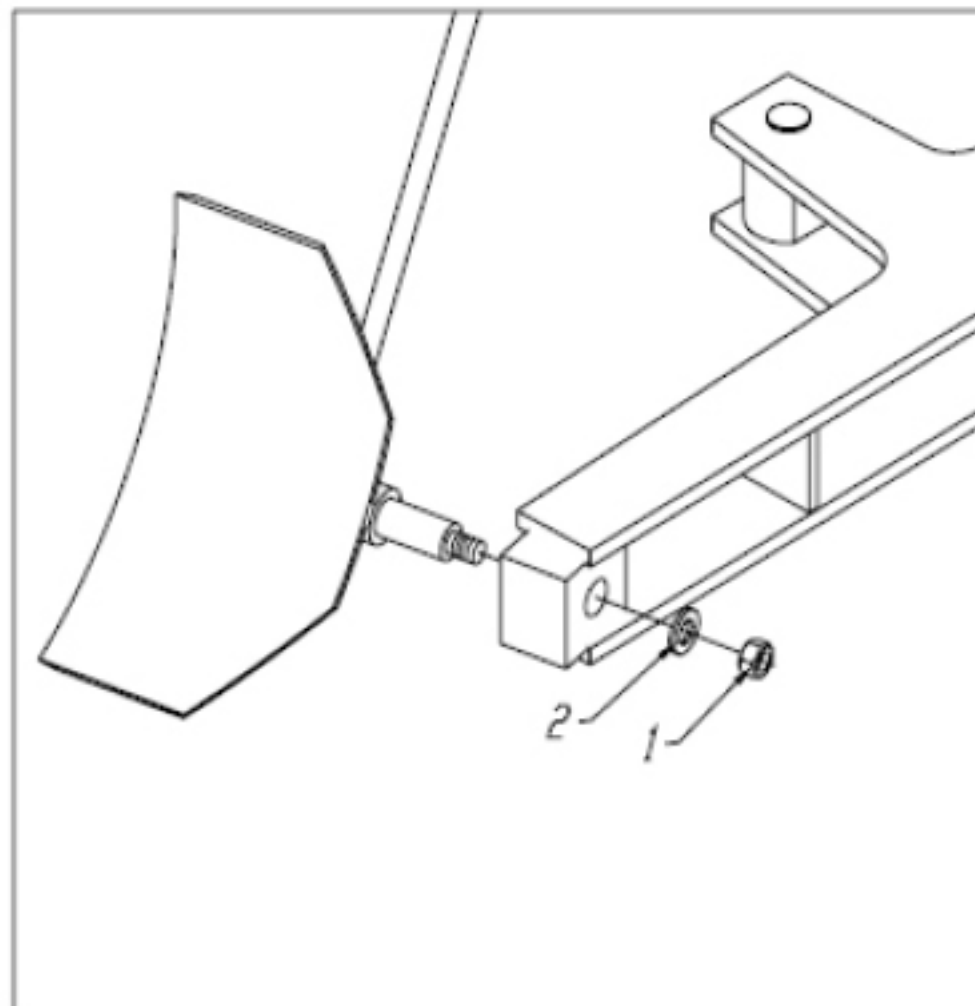

Figure 2-5
2. Tighten lock nut (1) and spring washer (2) to mount the Bead Breaker Blade (Figure 2-5).